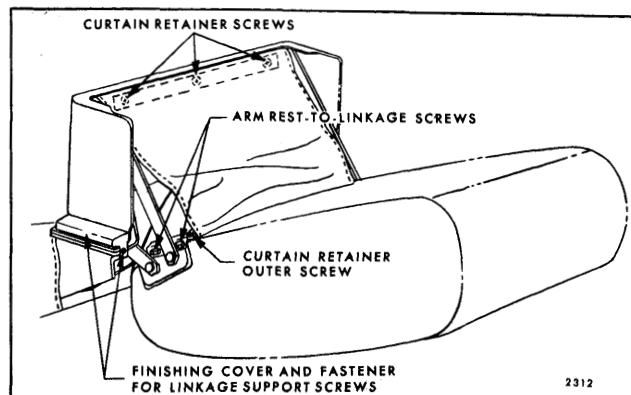

Fig. 10-26—Front Seat Center Arm Rest (Notch Down Seat Back)
2. Carefully pull curtain back sufficiently to remove screws securing center arm rest to support linkage and loosen outer screws securing curtain retainer to arm rest (Fig. 10-26).
3. Remove screw finishing covers (Fig. 10-26). Disengage arm rest from support linkage and turn arm rest upside down on trim panel finishing cover with curtain attached. Remove three screws securing curtain retainer to trim panel finishing cover (Fig. 10-26); then remove arm rest and curtain from seat.
2. Working between arm rest and seat back, remove fastener at both sides of arm rest securing front end of screw finishing covers (Fig. 10-26).
2. Remove screws securing arm rest to support (Fig. 10-26); then, remove support from arm rest, finishing cover and curtain.